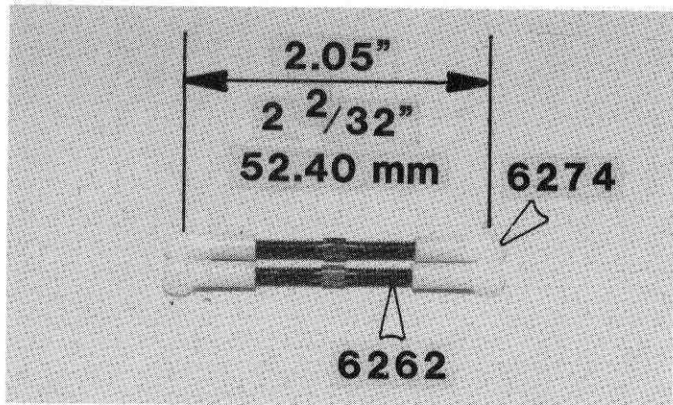

Fig. 17
□ **Fig. 17** Screw the plastic ball cups onto the rods, as shown. The rods have a LH thread on one end and a RH thread on the other end, so they will screw on in different directions. Screw them on evenly to the dimension shown, which is measured from the center of the ball cup. Ball sockets on both ends face the same direction.